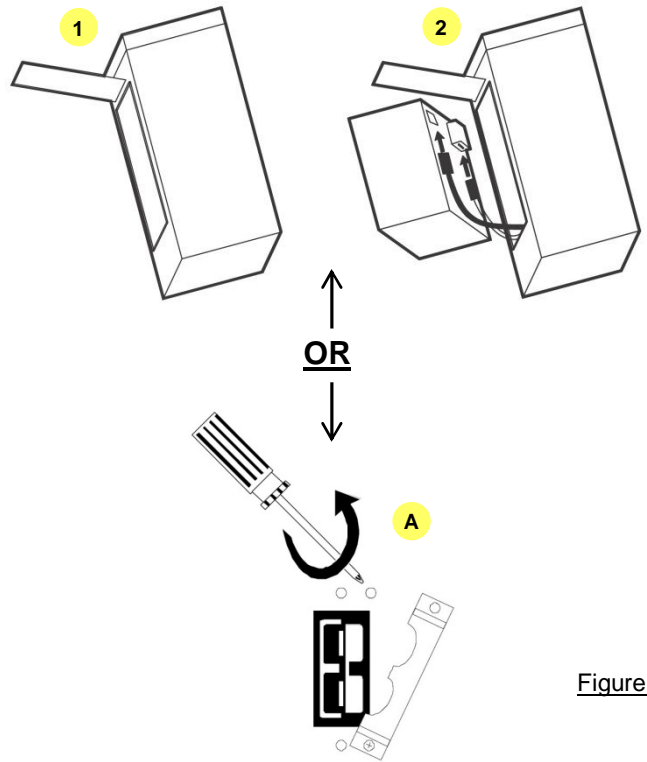

Figure 1
Connect the UPS's Internal batteries (Figure 1):
**NOTE:** Battery Disconnect/Connector may vary or be omitted on some models. Figure 1 illustrates some of the variations in connectors. Please follow the illustration which best resembles your UPS.
### Procedure for Figure 1: (1, 2)
### Procedure for Figure 1: (A)